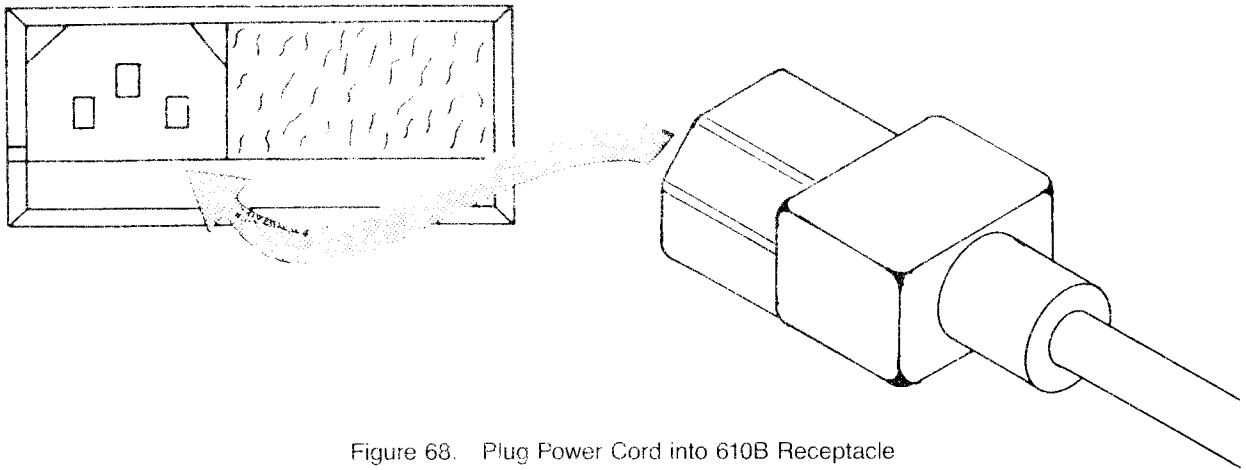

Figure 68. Plug Power Cord into 610B Receptacle
- c. Plug the female connector on the AC power cord into the AC power receptacle on the rear panel of the 610B (see Figure 68).